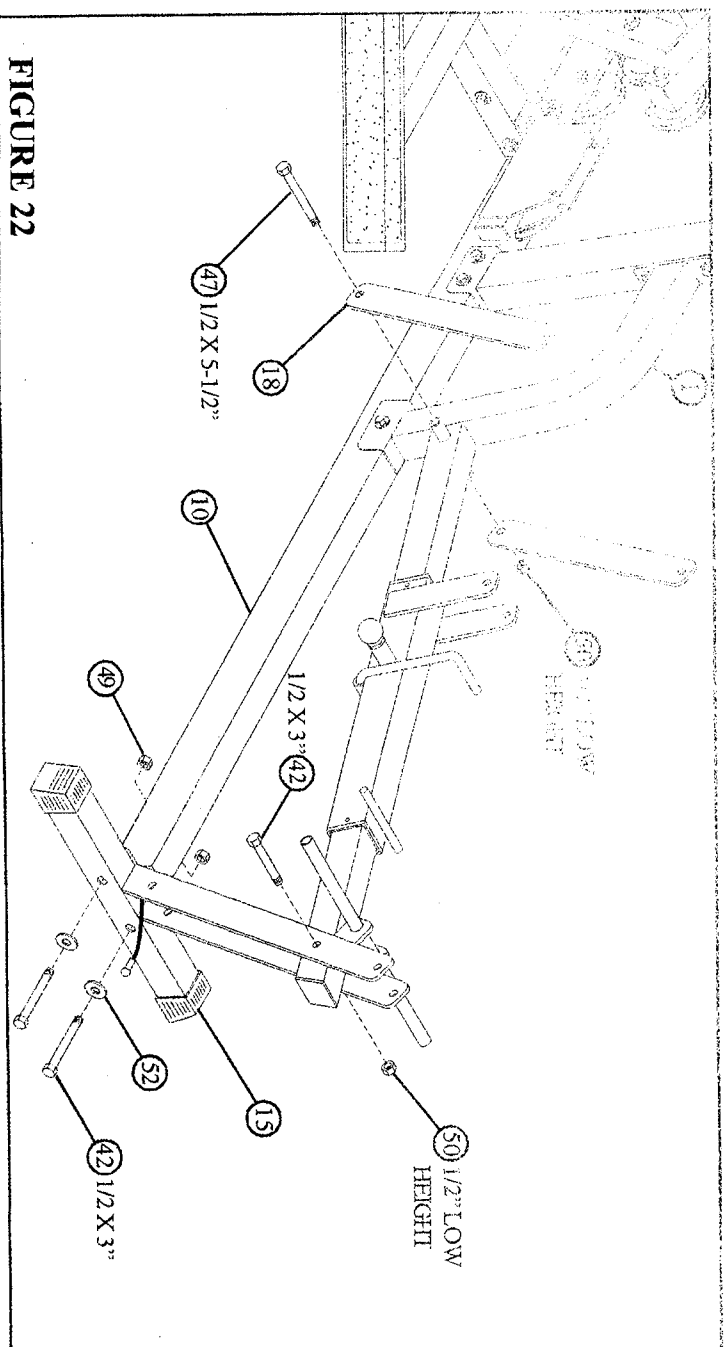

FIGURE 22
- Securely fasten the LEG SUPPORT (15) to the BASE (10) using two 1/2 X 3" BOLTS (42), two 1/2" WASHERS (52) and two 1/2" LOCKNUTS (49).
- Securely attach FRAME SUPPORT (1) to the LEG SUPPORT (15) using one 1/2" X 3" BOLT (42) and one 1/2" LOW HEIGHT LOCKNUT (50) as shown in FIGURE 22.
- Attach two 2 X 16-1/2" PLATES (18) to the FRAME SUPPORT (1) using one 1/2 X 5-1/2" BOLT (47), and one 1/2" LOW HEIGHT LOCKNUT (50) as shown on FIGURE 22. (NOTE: Securely tighten, then back nut off 1/4 turn to allow the 2 X 16-1/2" PLATES (18) to rotate freely.)